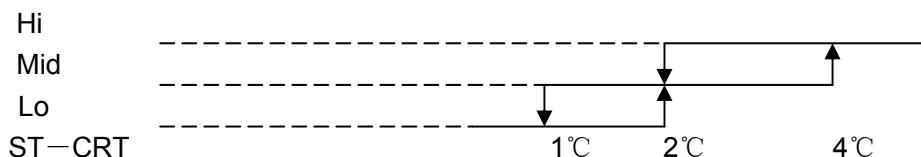

Figure 2 Heating automatic airflow
- b. indoor fan motor's the automatic airflow speed control Indoor fan motor can operate by automatic, as shown in Figure 2: